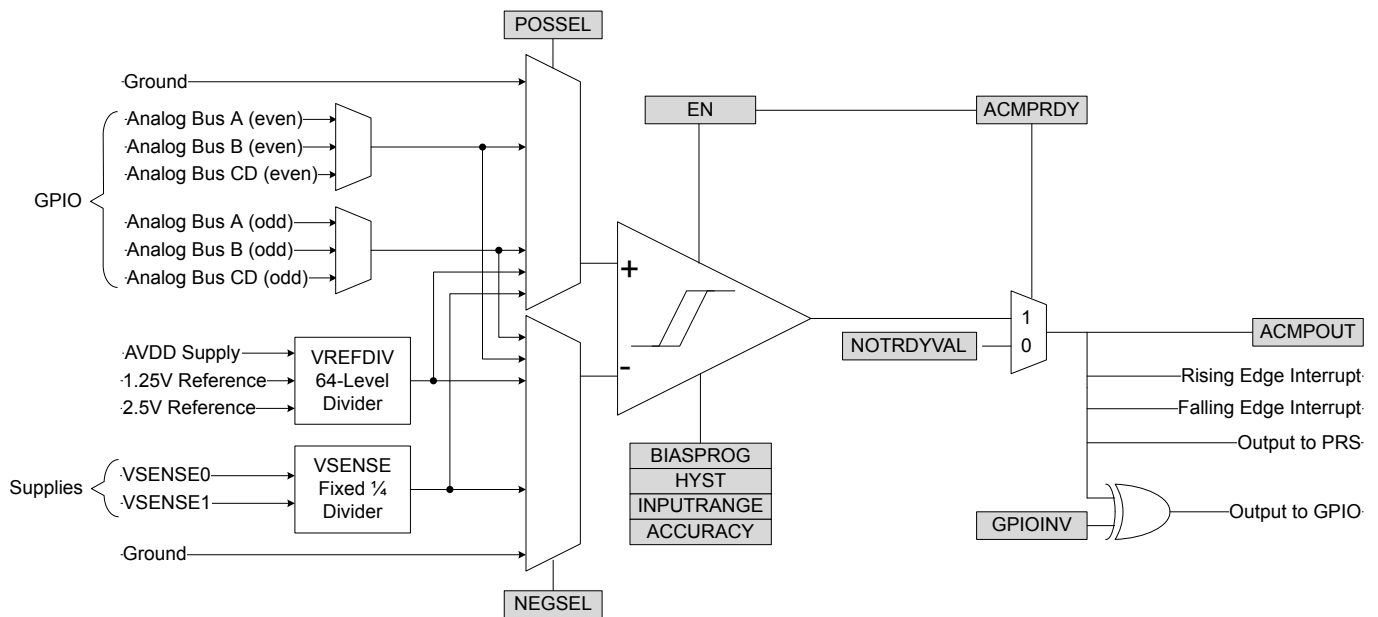

Figure 29.1. ACMP Overview
An overview of the ACMP is shown in Figure 29.1 ACMP Overview on page 1110.
The ACMP can be used to monitor supply voltages. This is done by selecting VSENSE01DIV4(LP) or VSENSE11DIV4(LP) for either POSSEL or NEGSEL. Note that the input to the comparator core will be divided by 4, as illustrated in Figure 29.1 ACMP Overview on page 1110. To reduce energy consumption, a sample/hold circuit can be used to periodically sample the power supplies. To enable this, select VSENSE01DIV4LP or VSENSE11DIV4LP in POSSEL / NEGSEL. Because the sample/hold feature uses the comparator in a non-continuous fashion, enabling this will increase response times and reduce the accuracy of the comparator. The connections between VSENSE0 and VSENSE1 to power supplies are summarized in the table below.